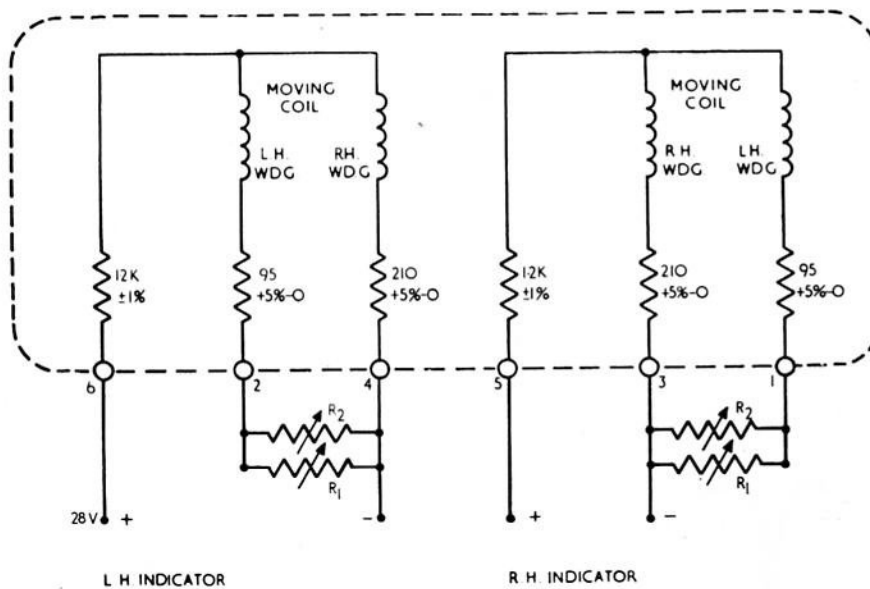

Fig.2 Circuit and test circuit diagram
8. Set the resistance boxes to be used as R1 and R2 to 91 ohms and 10260 ohms respectively, then connect the indicator to the test circuit shown in fig.2 for the left-hand indicator.